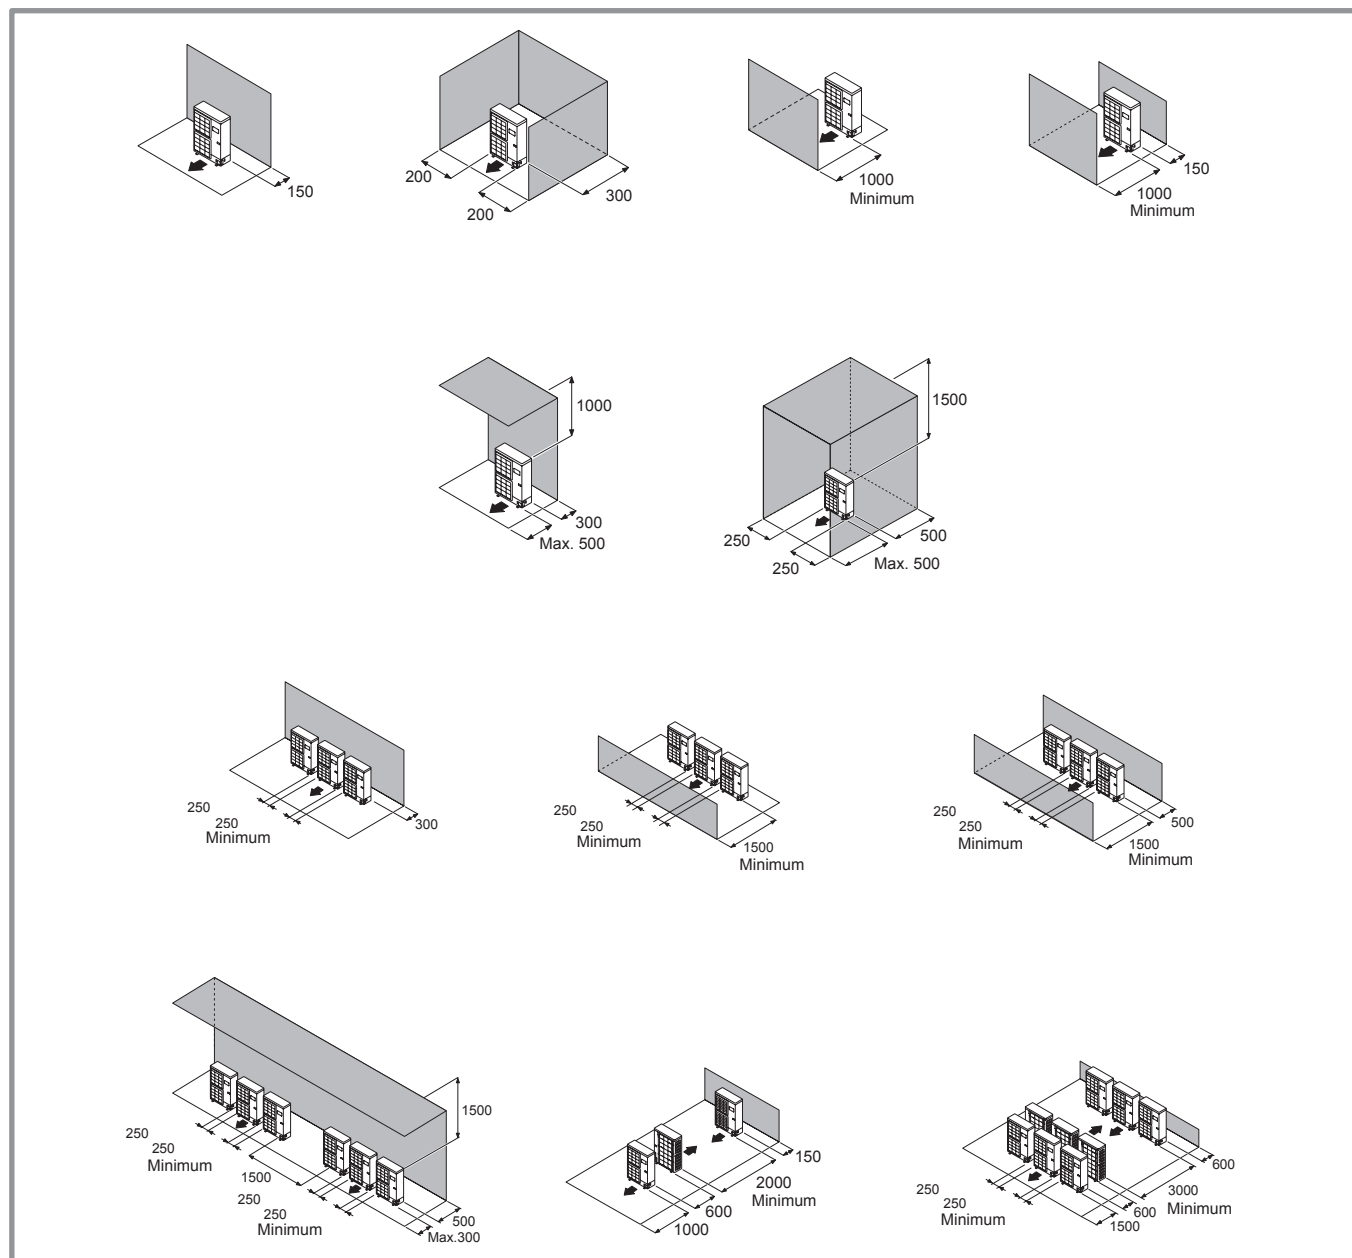

figure 12 - Minimum installation clearances around Outdoor unit (all models)
**The outdoor unit must be installed outdoor (outdoors). If a shelter is required, it must have broad openings on the 4 walls and observe the installation clearances (figure 12).**
- The unit must be easily accessible for future installation and maintenance work (figure 12).
- Nothing should obstruct the air circulation through the evaporator and from the fan (figure 12).